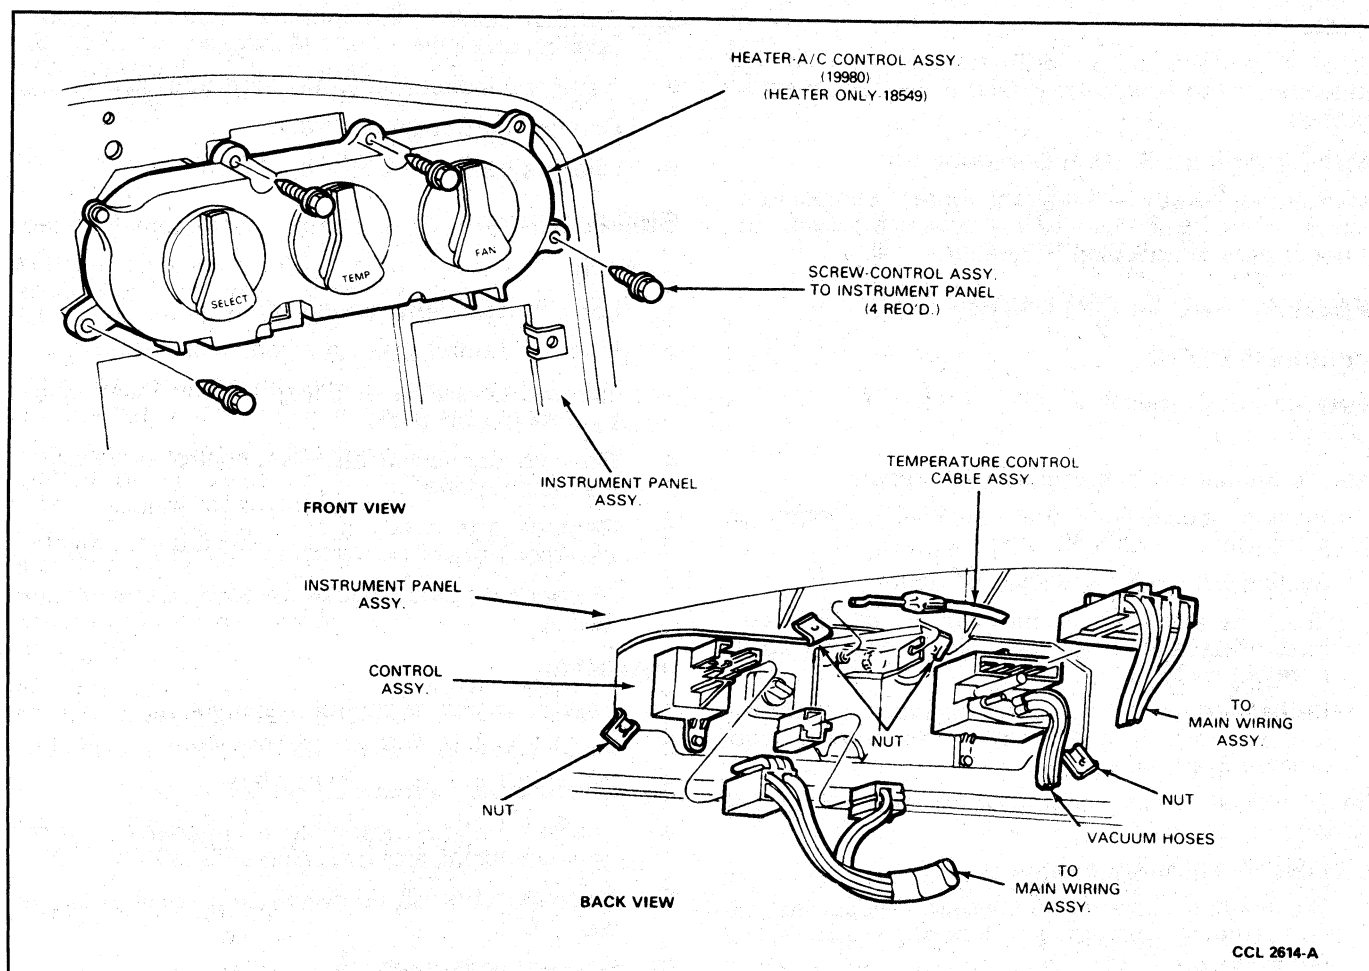

FIG. 15 Control Assembly Removal
3. Remove four screws attaching control assembly to instrument panel (Fig. 15).
3. Position control assembly to instrument panel opening and install four attaching screws (Fig. 15).
3. Remove one screw attaching vacuum switch to control assembly. Remove vacuum selector switch (Fig. 15).